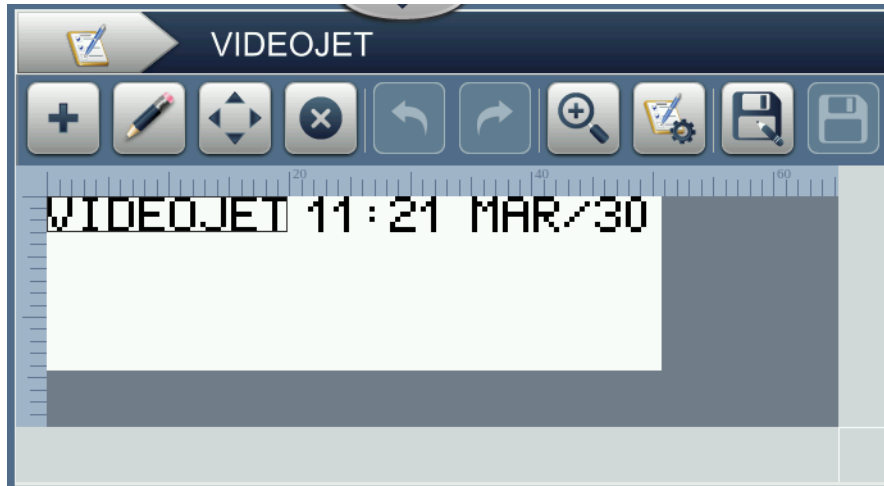

Figure 5-13: Field Edit Screen
3. Touch the required field to be edited and touch the  button as shown in Figure 5-13.